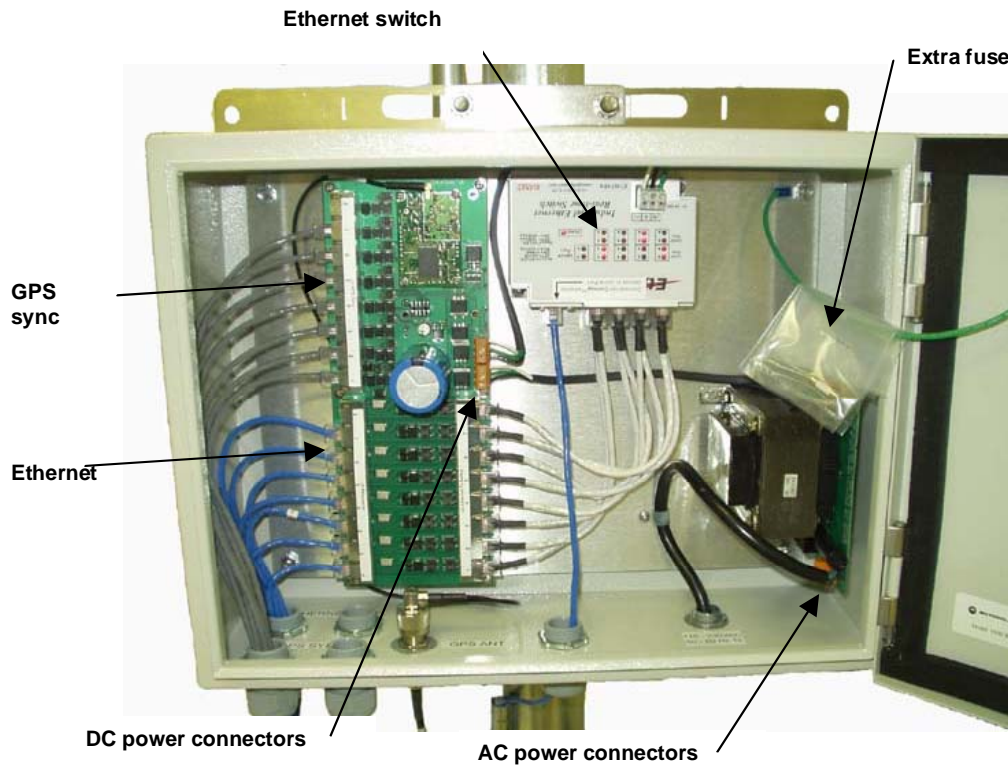

Figure 11: Canopy CMM2, front view
7. Connect the Ethernet cable from the first AP or BH to the **Port 1** in the J3 ports in the CMM2. This port is the *master* Ethernet port for the CMM2 and should be connected first in all cases. Figure 11 on Page 25 is a photograph of a properly wired CMM2.
10. Connect the GPS sync cable from the first AP or BH to the **Port 1** in the J1 ports in the CMM2. See Figure 11 on Page 25.